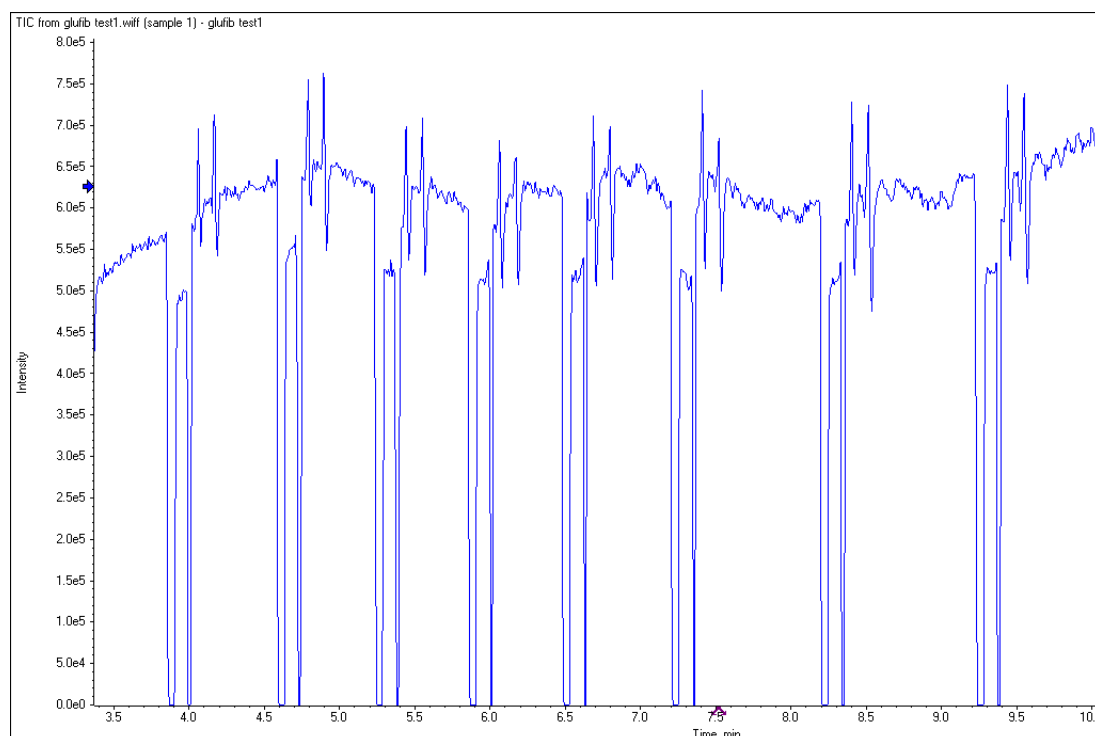

Figure 2-24 Unstable spray induced by air bubbles
- Unstable spray appears as shown in Figure 2-24 (typical unstable spray induced by air bubbles).